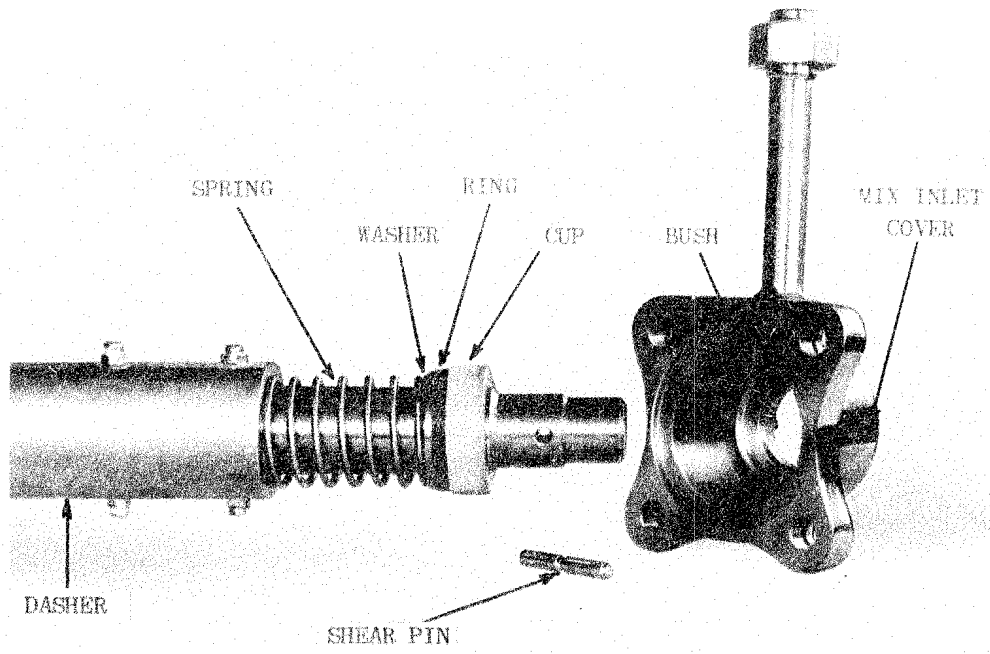

FIG. 2. ROTARY SEAL ASSEMBLY
Lift the front of the dasher slightly and insert the trough under the dasher and withdraw dasher and trough together and take apart the rotary seal. See figures 2 & 4.
3. Before fitting in the dasher make sure all rotary seal parts at the rear are assembled in their proper order and that the seal faces are perfectly clean. See figure 2.